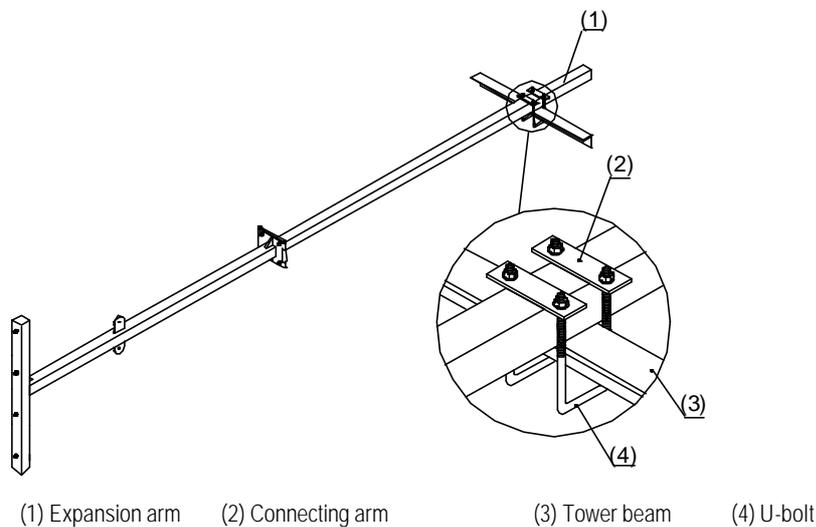

Figure 3-14 Installing the antenna support on tower
- 3) Fix the support on the tower with a U-shape fixing clip, as shown in Figure 3-14.